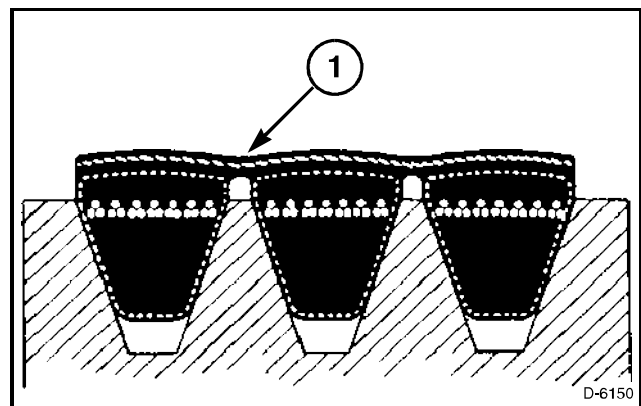

FIG. 1
FIG. 1: A banded drive belt is made of two or more V-belts (of a standard cross section size) banded together at the top with a tie band (1). The V-belts and the tie band are vulcanized together to form a multiple strand banded belt.